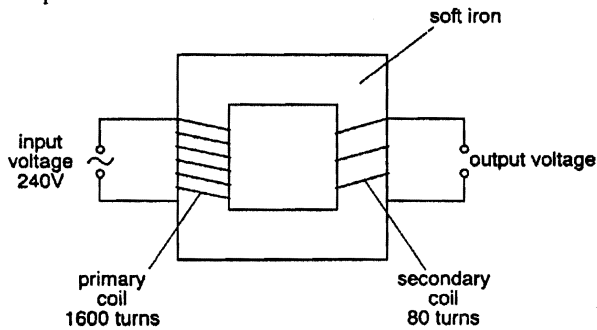

Fig. 14.1
- 71 Fig. 14.1 shows a transformer being used to step down a 240 V alternating supply, in order to operate a low voltage lamp.